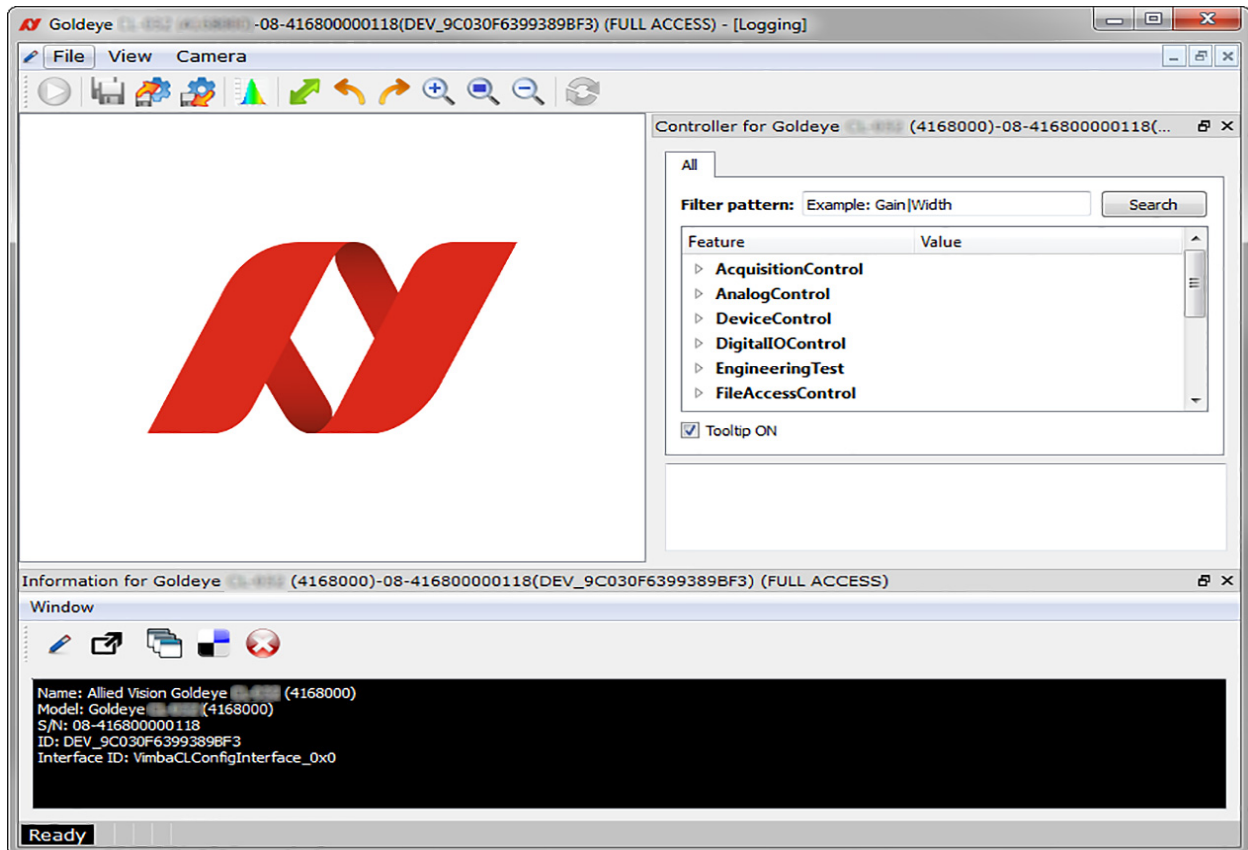

Figure 11: Vimba Viewer window
4. A new camera window appears, as shown in Figure 11 on page 63. This camera window consists of the following components:
The controller window is displayed in the top right section of the Vimba window, refer to Figure 11 on page 63. It is used to configure the camera frame rate, exposure time, pixel format, and much more.